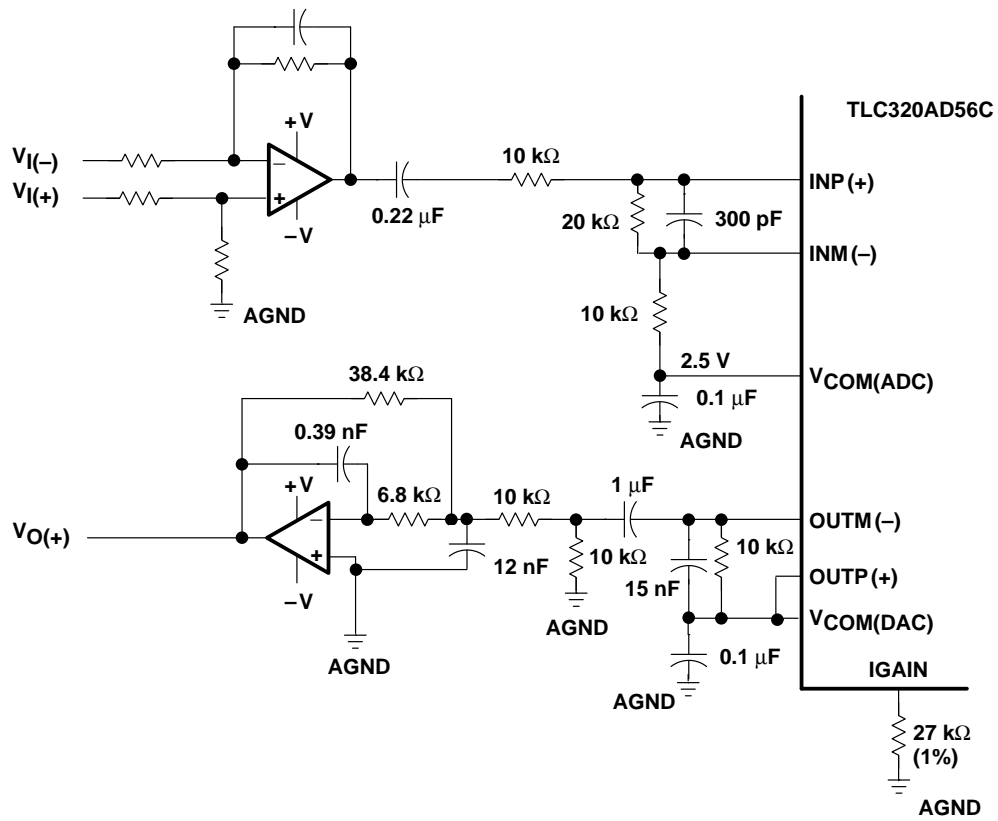

Figure 5–1. Application Schematic For Single-Ended Input/Output
9. The digital input to the DAC channel at DIN is in 2's complement format. The TLC320AD56C is a current DAC and requires a load resistor for current-to-voltage conversion. This output voltage is across the load resistor (see Figures 5–1 and 5–2).